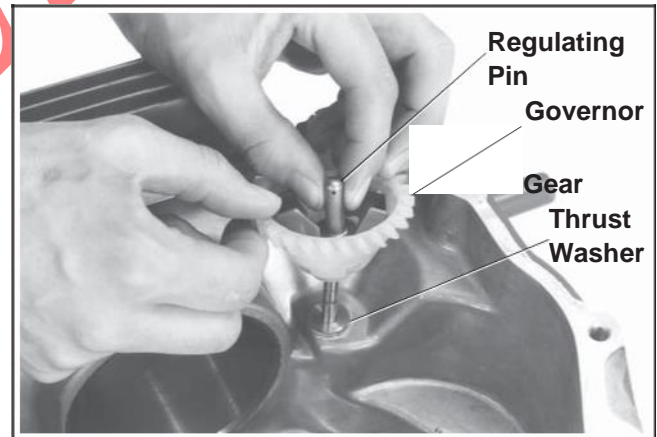

Figure 11-1. Installing Governor Gear.
2. Position the regulating pin to governor gear/flyweights as shown in Figure 11-1. Slide the governor gear/regulating pin over the governor gear shaft.